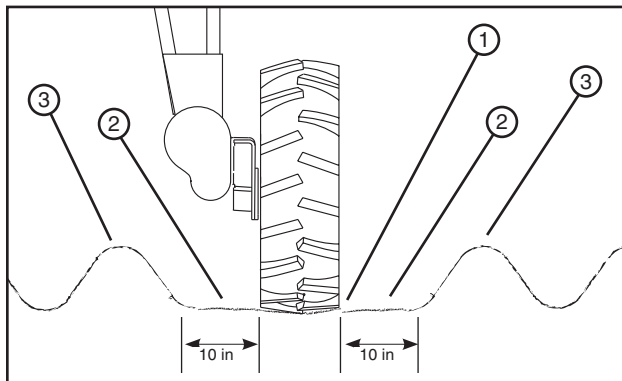

Figure 36-2 1. Wheel Track
3. Remove or flatten the rows at the wheel tracks with a minimum of 10 in (254 mm) of clearance space on each side of the wheel track. See figure 36-2.